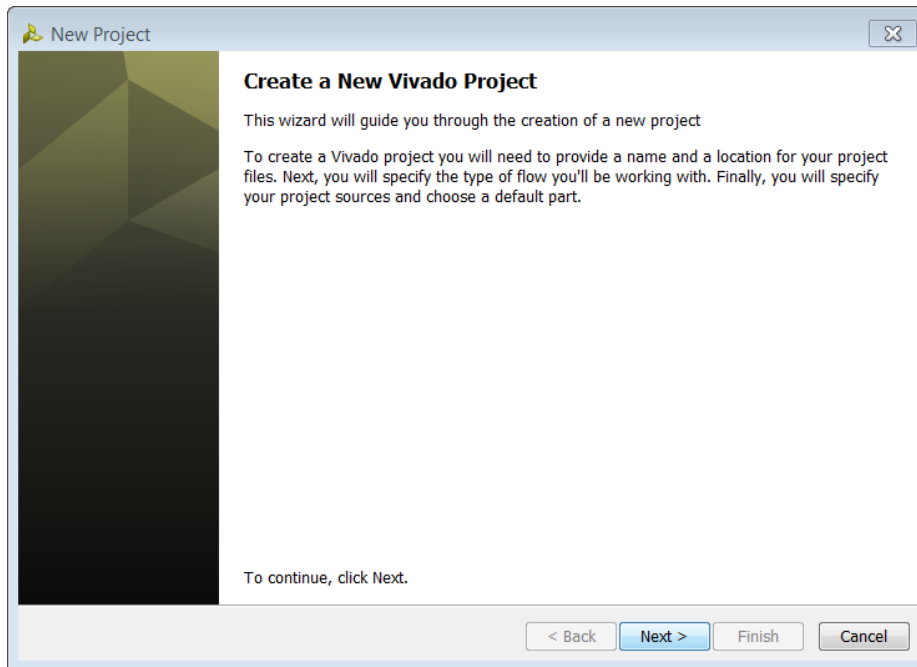

Figure 2: Create New Project Wizard
2. From the Getting Started page, select **Create New Project**. The New Project wizard opens (**Figure 2**).